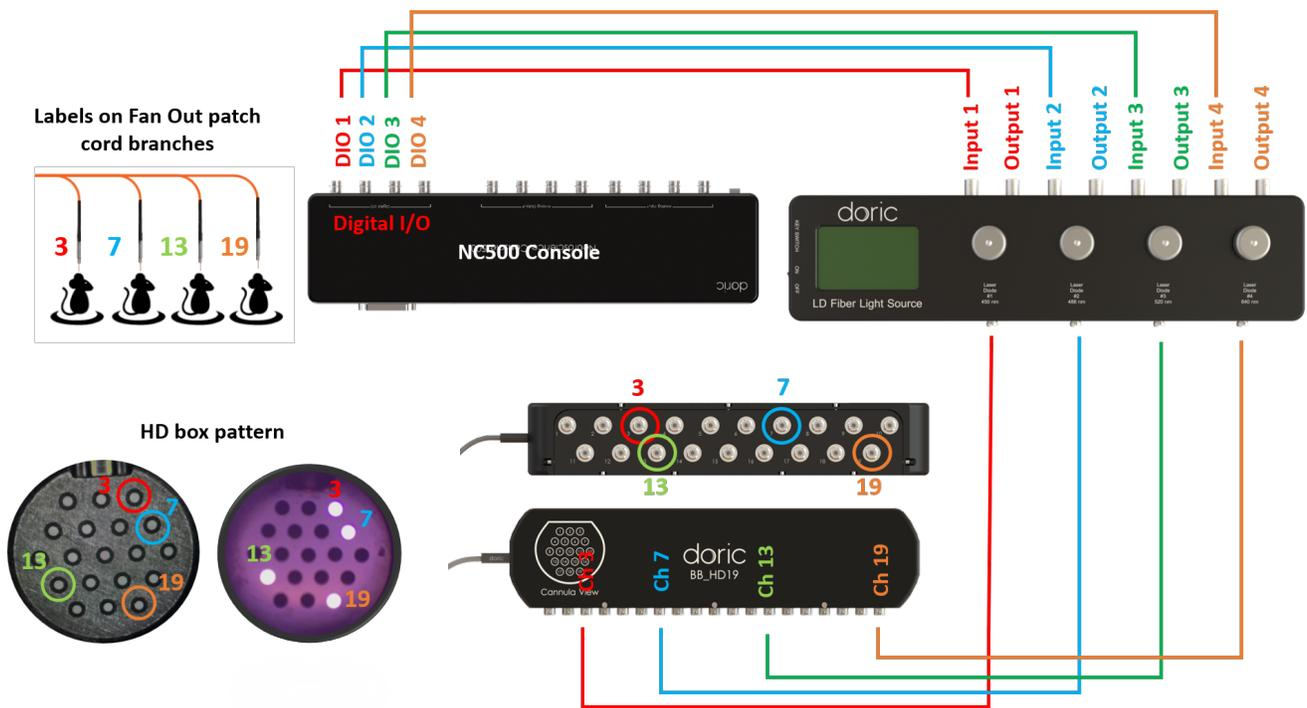

Figure 3.6: Optogenetics Wiring
So far, the wiring for the photometry recording has been completed. We can now assemble the optogenetics components, the Laser Diode Fiber Light Source (LDFLS) and HD branching box (Fig. 3.6) . Follow the steps below to connect them:
1. Begin with the LDFLS. Depending on the number of ROIs that you want to deliver optogenetics, your LDFLS can have different number of channels. Here, we will give an example for a 4-channel LDFLS (Fig. 3.6). Using BNC cables, connect 4 Digital I/O channels of NC500 console to 4 **“Input”** channels at the back of the LDFLS. We recommend connecting as:
In Fig. 3.6 image, the branching patch cord outputs are labeled as 3, 7, 13, and 19. Therefore, the LDFLS ports are connected as follow: